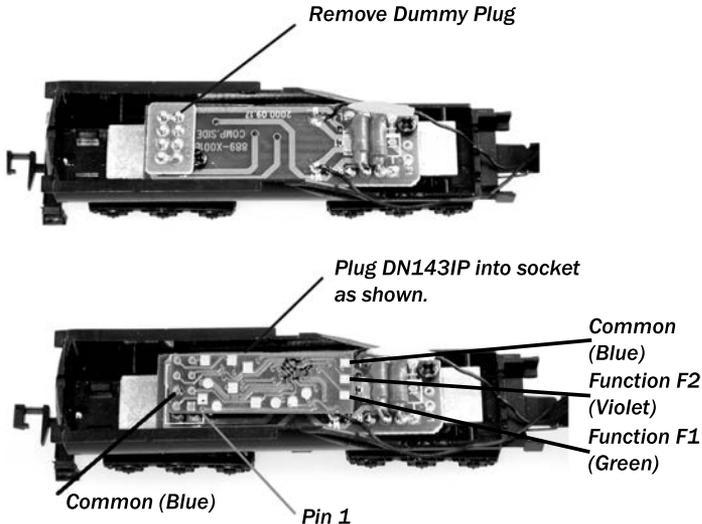

Figure 1
2. If you plan to use functions F1 (traditionally a green wire) or F2 (traditionally Violet), the return, also called +Common or Lamp Common, should be made via a wire *carefully* soldered to the pad indicated as shown in Figure 1.
**Digitrax Transponding** is controlled by CV61. The initial factory set value is 000 for **OFF**. To turn **ON** transponding, program CV61 to a value of 002. This allows you to use Digitrax transponding to keep track of your rolling stock. When transponding is enabled, the front light of the locomotive will flicker slightly to indicate transponding signal is being communicated. For optimal transponding operation, we recommend that you hook up the forward and rear lights as shown in the wiring diagram (*Figure 1*).
The DN143IP is set up at the factory to control four function outputs. The DN143IP is configured to control the forward and reverse lights on the locomotive through the plug using Function 0 (F0F-forward and F0R-reverse) for directional lighting. Function F1(Green) and F2 (Violet) outputs are available in the pad positions shown in figure 1. The wire colors indicated are the standard color code used in the industry. These colors are important if you plan to use function remapping.